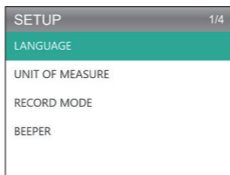

Figure 8.1.2
1. Select Setting and press [OK] to view the submenu. (See Figure 8.1.2)